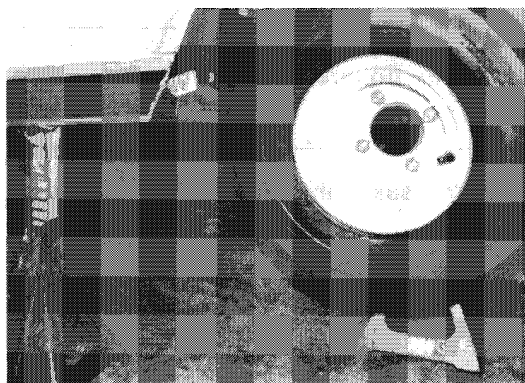
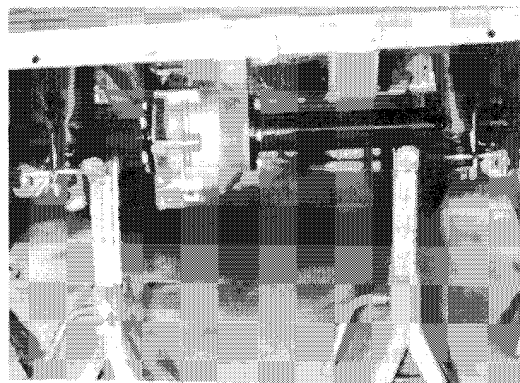

Figure 6-12
Figure 6-13
1. If a chain hoist is available, raise chassis and place jackstands under transaxle. Lower chassis slightly to partially compress leaf spring (Figure 6-12). If floor jack is used, raise transaxle and place two jackstands under frame forward of both front and rear spring mounts. Two more jackstands should be placed under transaxle (Figure 6-13).